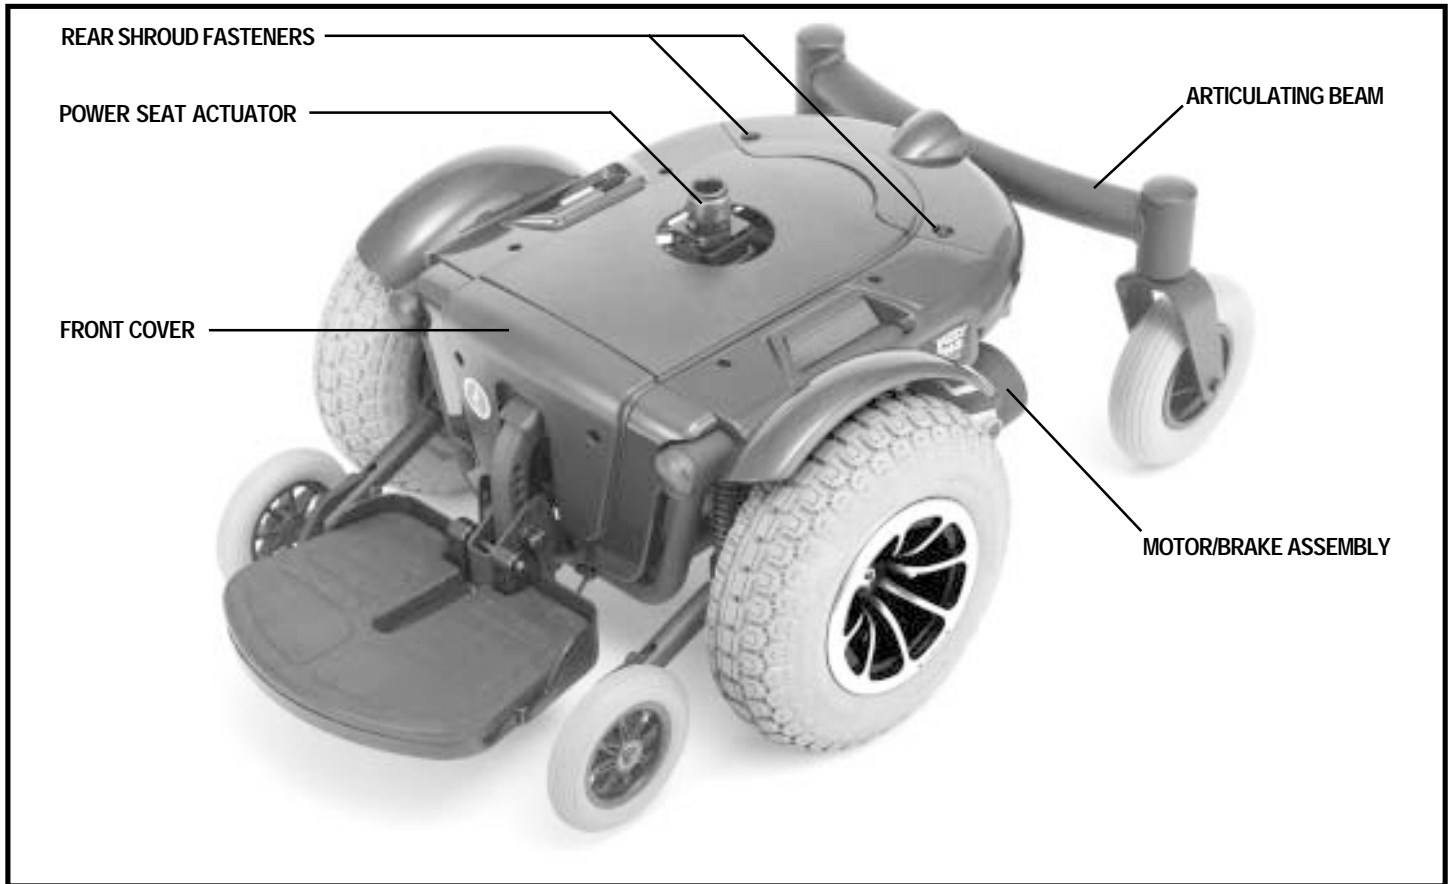

Figure 6. The Jazzy 1143 Ultra Power Base
2. Turn the rear shroud fasteners one-quarter turn in any direction and remove the rear shroud. See figure 6.